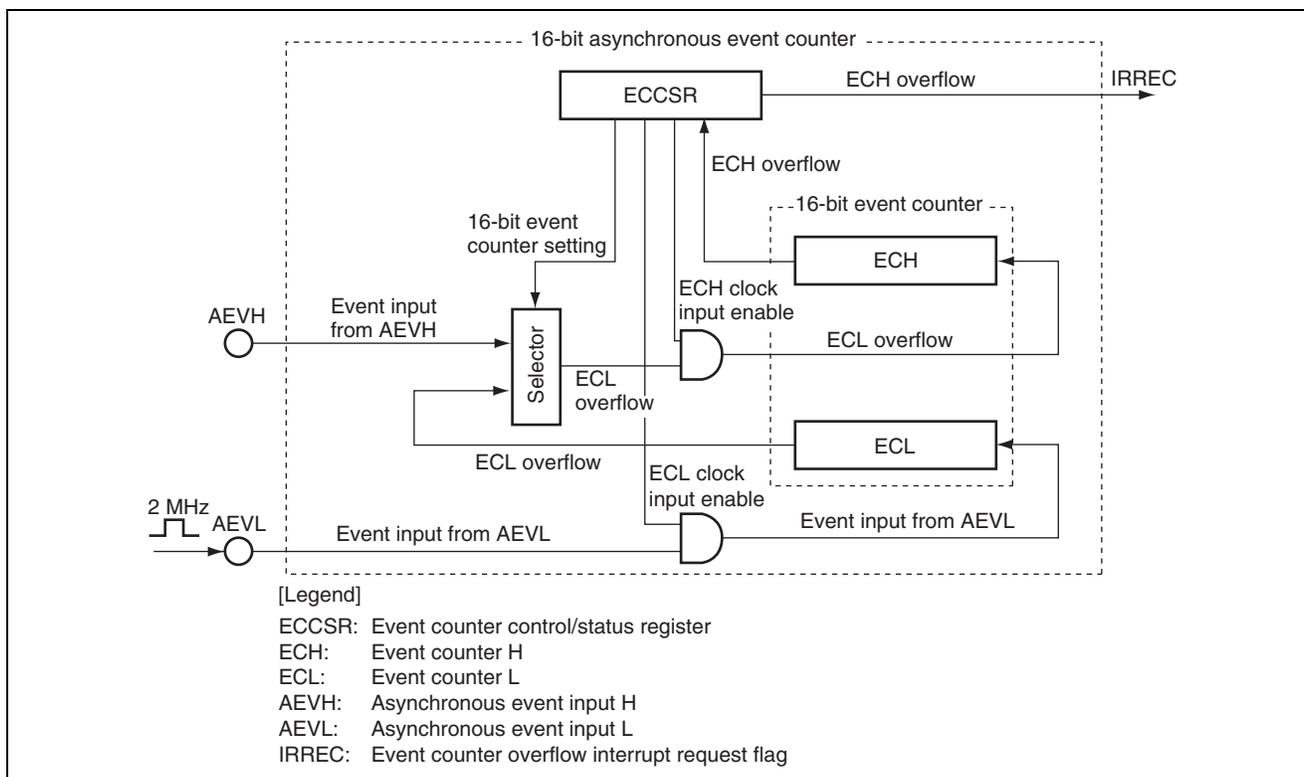

Figure 2.1 Block Diagram of Asynchronous Event Counter
2. Figure 2.1 is a block diagram of the 16-bit asynchronous event counter used in this sample task.